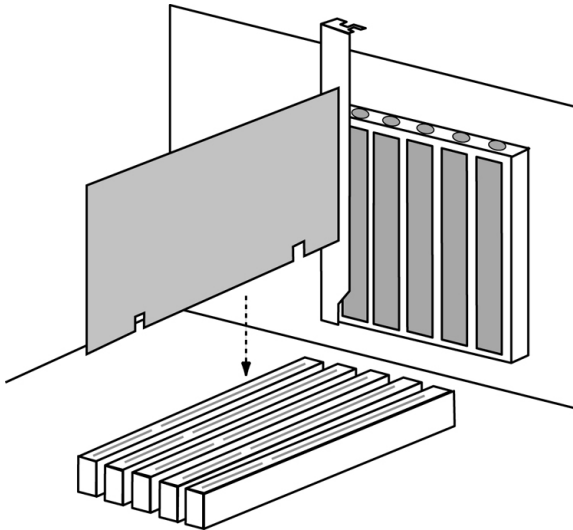

Figure 1. Insert the FastTrak TX4000 card into an open PCI slot.
3. Install the FastTrak TX4000 Controller card into the open slot (see Figure 1 below). Secure the bracket to the system's frame.